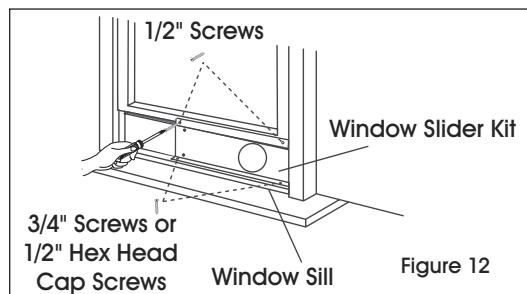

Figure 12
3. Close the lower sash securely against the window slider kit. (See Figure 12)
4. Drive two 1/2" screws to secure the window slider kit to the lower sash. (See Figure 12)
5. Secure the window slider kit to the window sill. (See Figure 12)